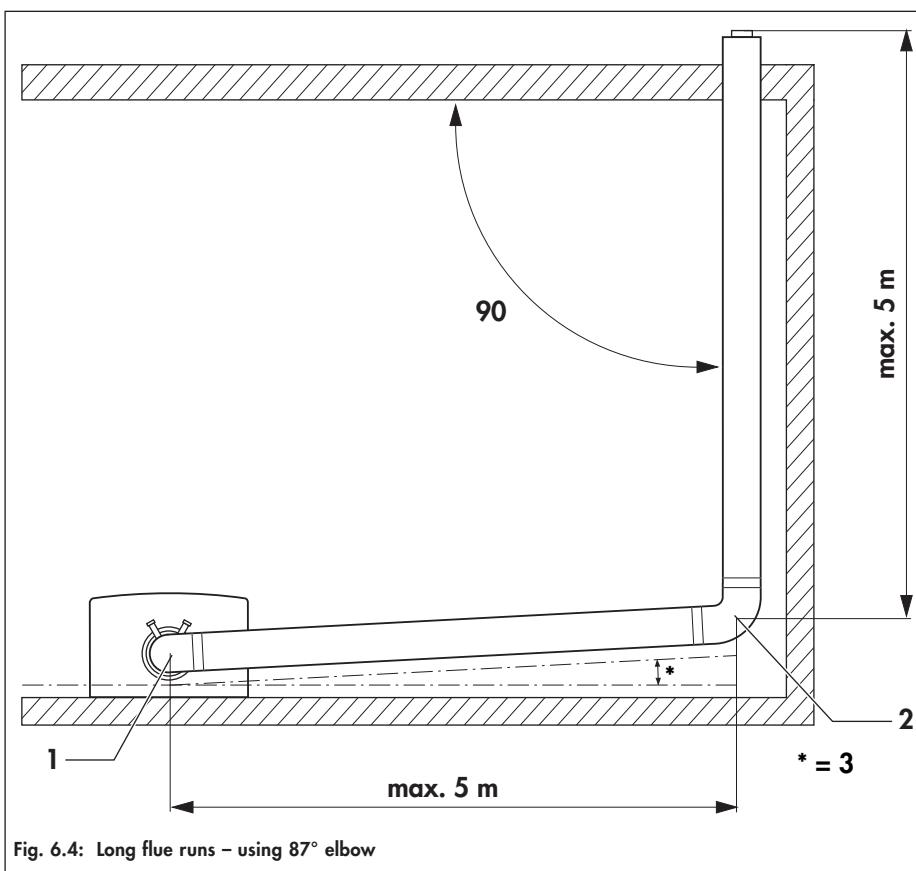
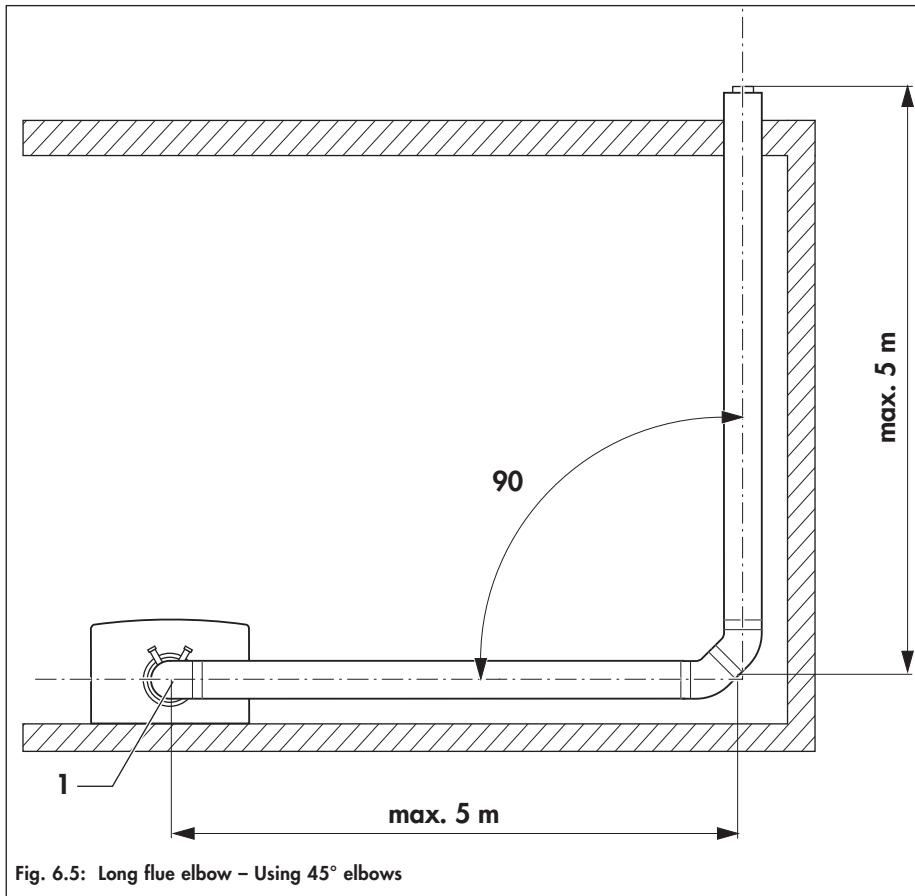

Fig. 6.4: Long flue runs – using 87° elbow
Fig. 6.5: Long flue elbow – Using 45° elbows
- When using elbows for long flue runs in a corner follow fig. 6.4 and fig. 6.5 to avoid obstructions.
When using 87° elbow install with a slope of 3° between wall and air-flue pipe (fig. 6.4) or use 2 x 45° elbows (fig. 6.5).